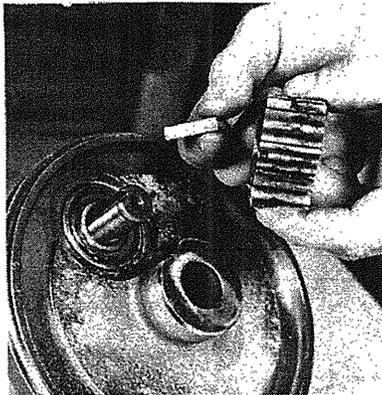
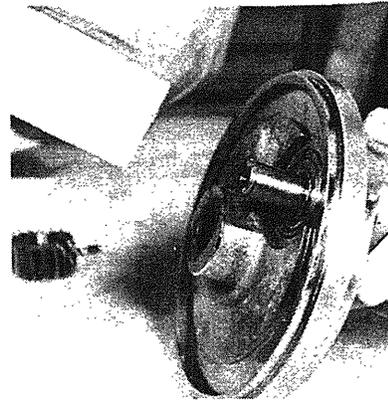

Fig. 2-6
Fig. 2-7
- C. Remove the pinion and key (Fig. 2-6). The shaft can be pressed out of the planetary from the top side (Fig. 2-7).